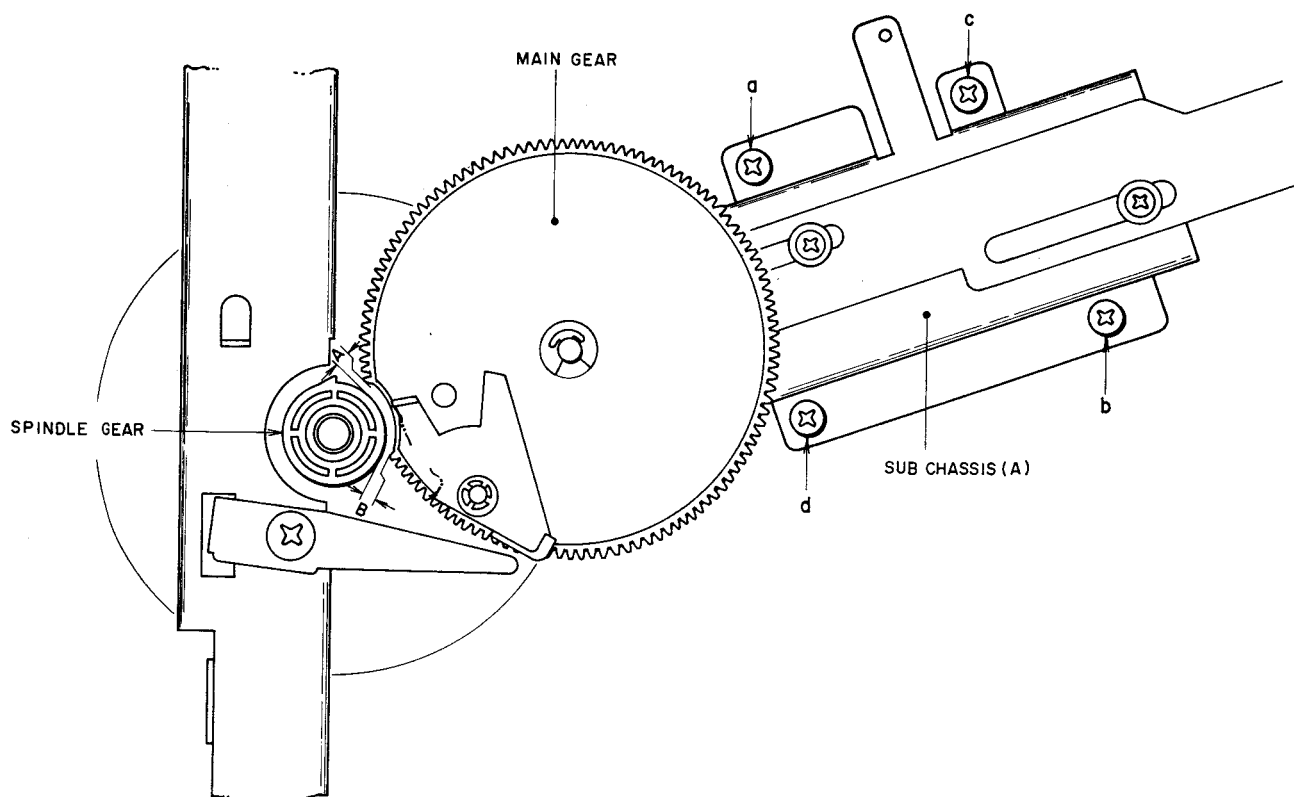

Fig. 26
1. THE MAIN GEAR INSTALLATION POSITION CHECKING (Refer to Fig. 26)